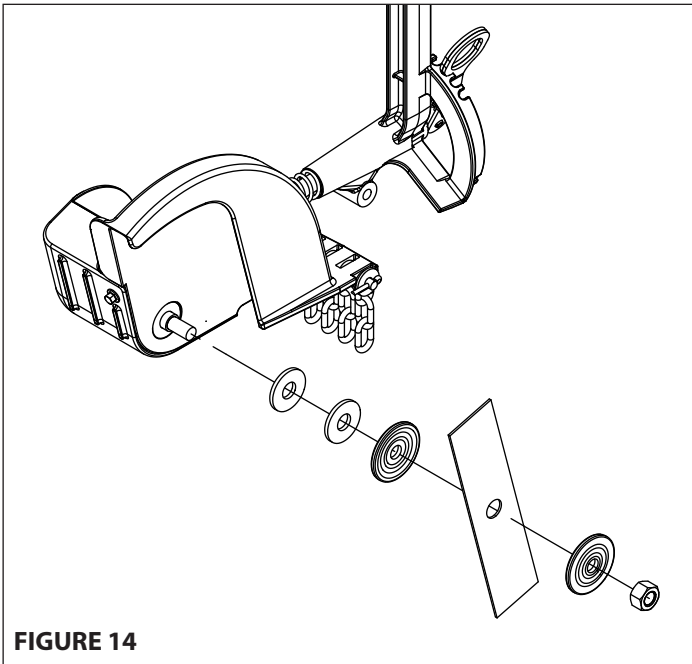

FIGURE 14
3. Loosen the nut holding blade in place. Remove the nut and clamp washer. **See Figure 14.**